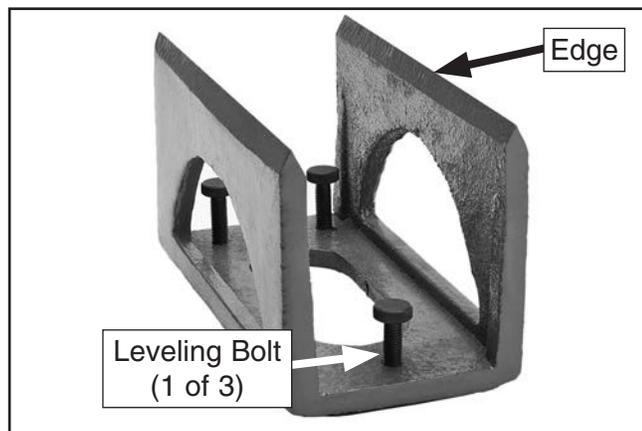

Figure 30. Wheel balancing base.
2. Clean rust and debris from edges of wheel balancing base (see **Figure 30**).